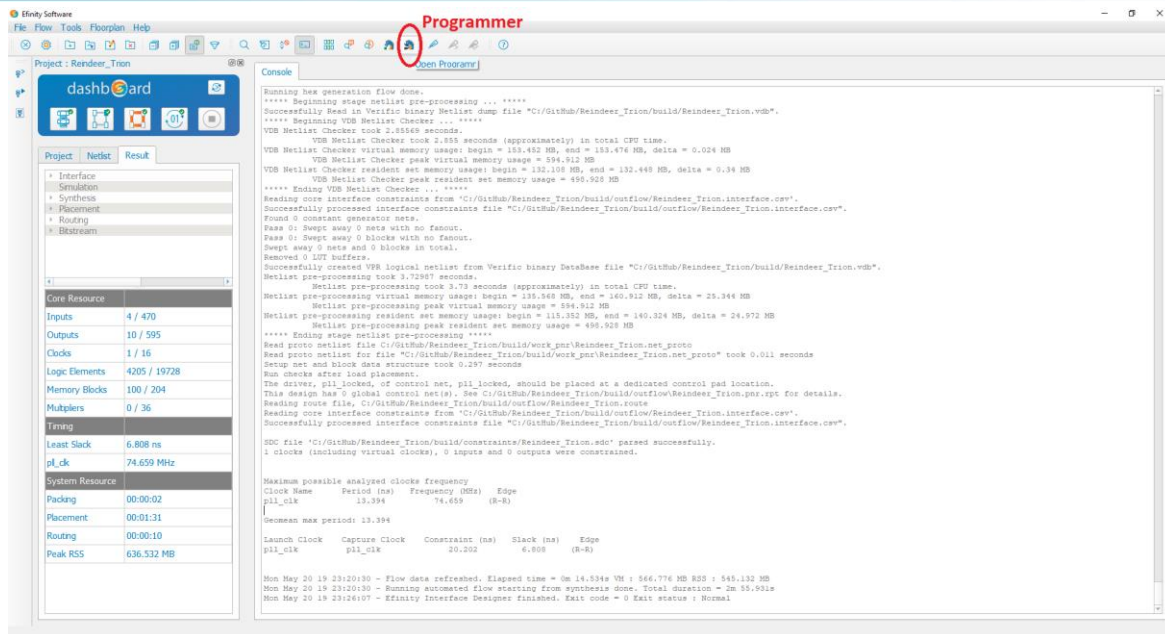

Figure 4-1 Launch Programmer
4. Launch Programmer in Efinity Software, as shown in Figure 4-1.